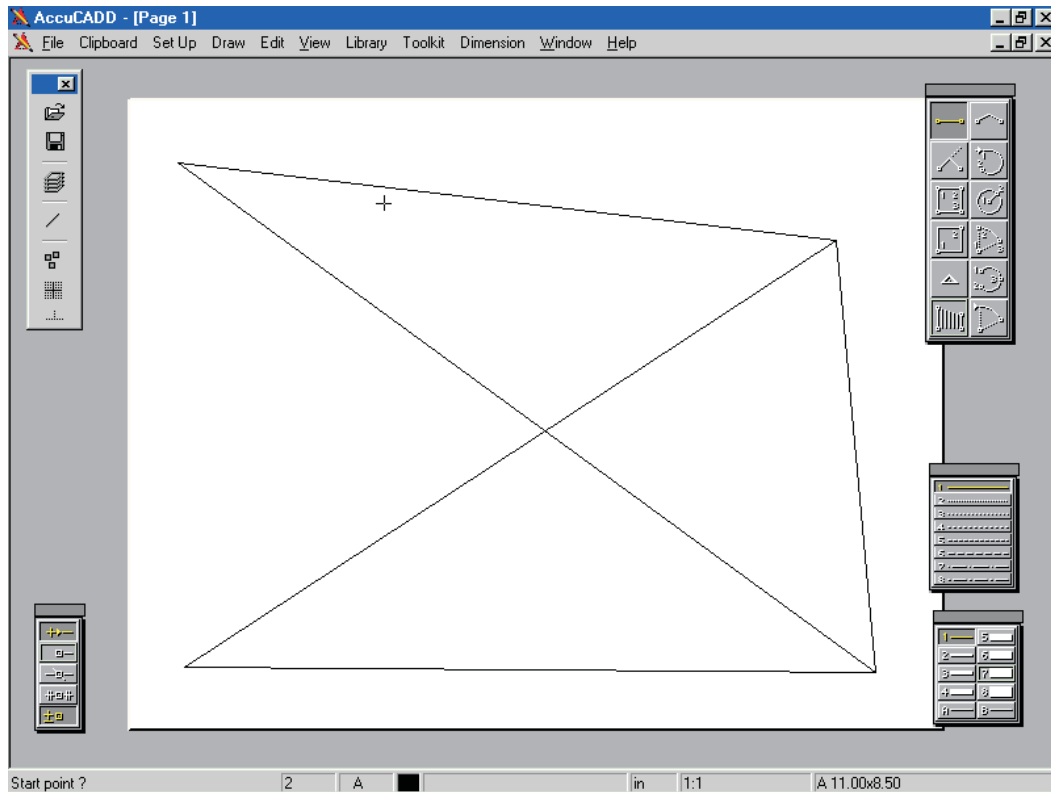

Figure 8: Draw any figure to fill the work area
□ Wipe the screen, then sketch any simple figure to fill the A-size work area, as shown in Figure 8.